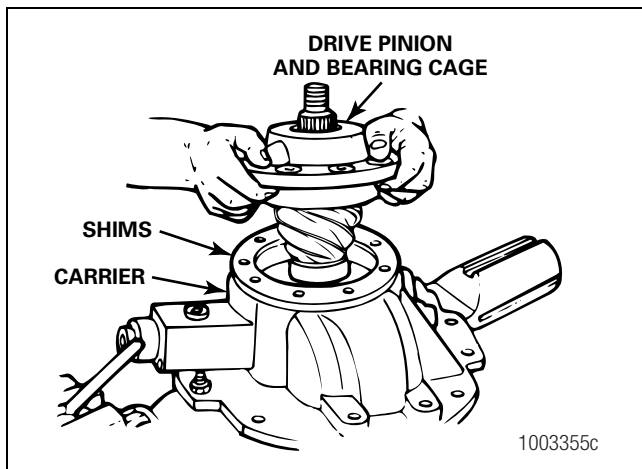

Figure 5.27
5. Install the drive pinion and bearing cage into the carrier. If necessary, use a rubber, plastic or leather mallet to hit the assembly into position. Figure 5.27.